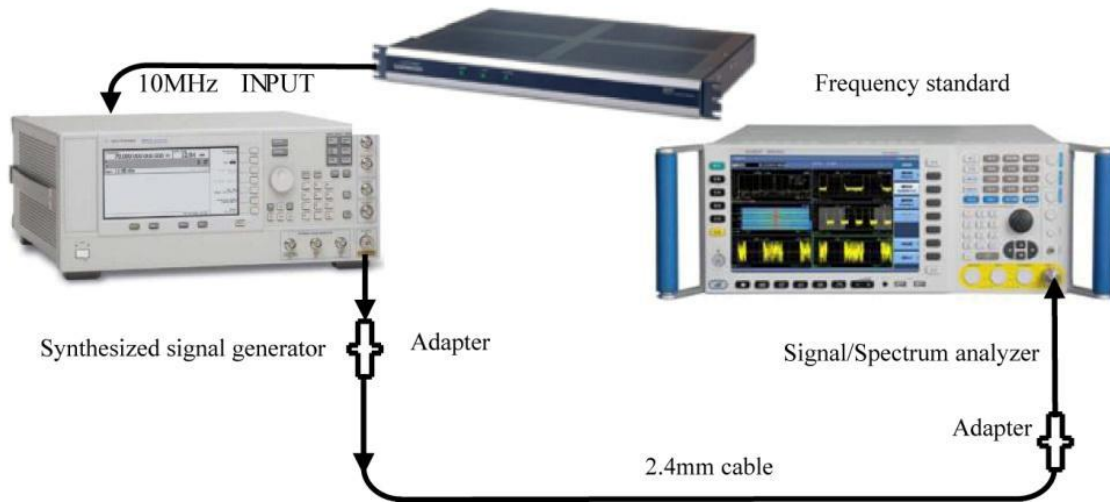

Fig. 8.2 Schematic diagram of frequency reference test
- 1) Connect the frequency standard output to the 10 MHz input of the signal generator according to Fig. 8.2 to provide reference frequency for the synthesized signal generator with the external frequency standard. Connect the low frequency output of the synthesized signal generator to the input interface of the 4051 signal/spectrum analyzer (if no frequency standard is available, optional signal generator with frequency of high stability can be used).